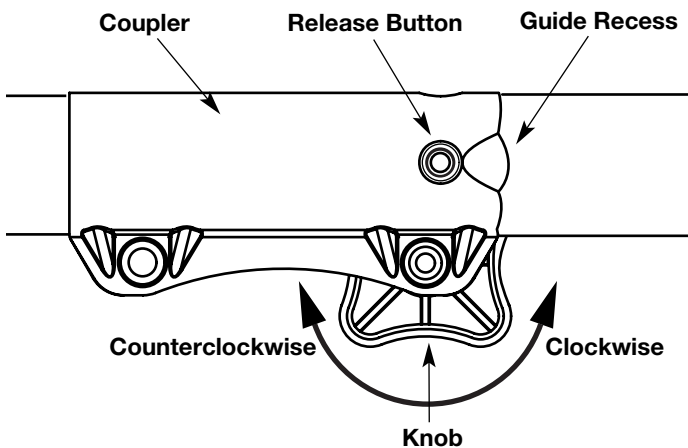

Fig. 1
1. Turn the knob counterclockwise to loosen (Fig. 1).
2. Press and hold the release button (Fig. 1).
2. Turn knob counterclockwise to loosen (Fig. 1).
**NOTE:** Aligning the release button with the guide recess will help installation (Fig. 1).